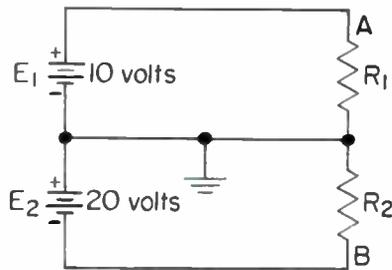

Fig. 8
4. In Fig. 8 is shown a DC circuit which uses two batteries, E_1 and E_2 . The common lead between the two loops is at ground potential. The voltage at point A is _____ volts. The voltage at point B is _____ volts. Consider ground as being at zero potential.